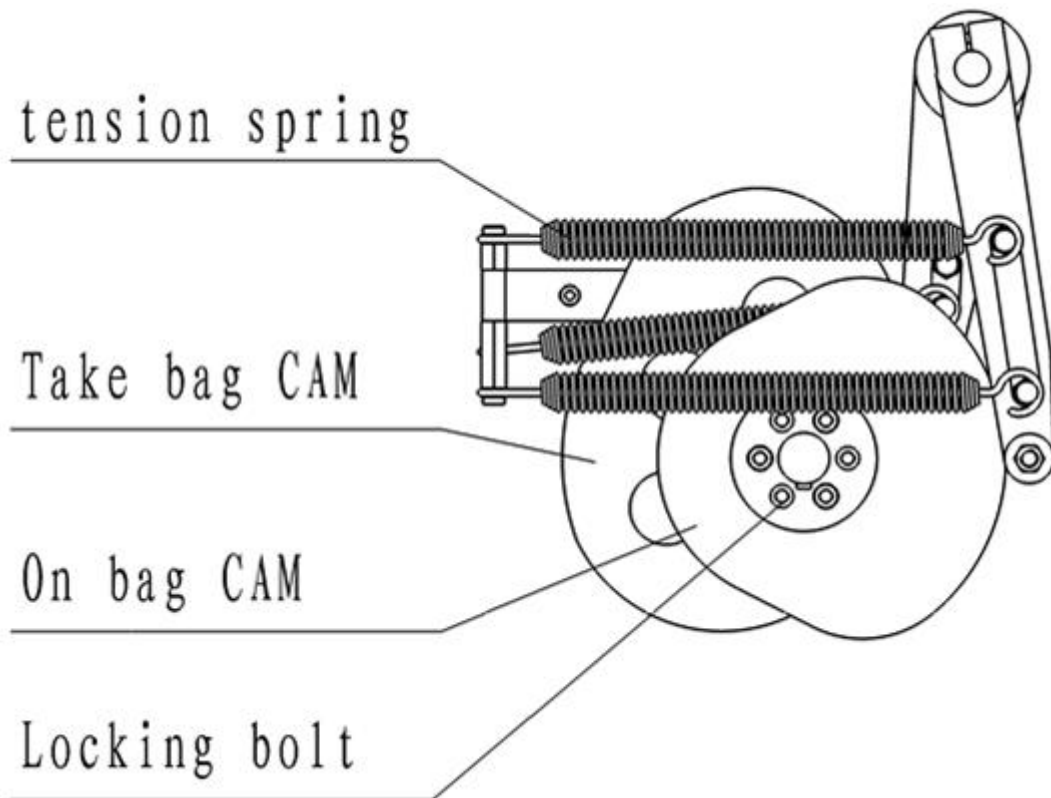

Figure 7
5.3.1 to loosen the swing arm tension spring, then loosen the CAM lock bolt adjustment take bag CAM and the bag of CAM, make take the bag with the bag action coordination, twist lock bolt, taut oscillating arm tension spring. (as shown in figure 7 shows)